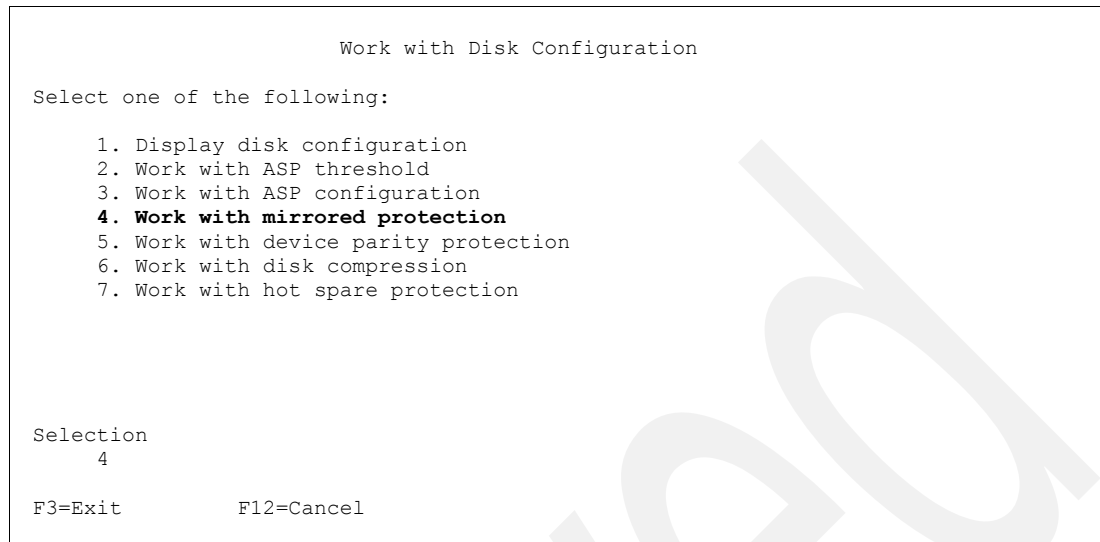

Figure 5-64 Work with mirrored protection
13. Select **4. Work with mirrored protection** as shown in Figure 5-64.